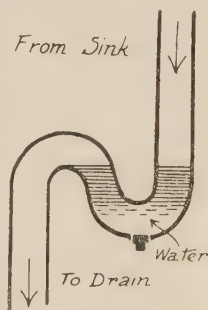

FIG. 11.—SINK TRAP.
* See Chapter III., p. 35, and Fig. 11.